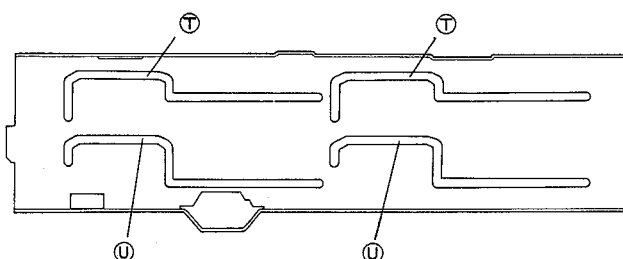

Fig. 10-6.
The racks change the linear movement in the right and left directions into the complex movement of the trays by grooves ①, ②, ③, and ④ on the reverse side and grooves ⑤ and ⑥ in loading base, as shown in Fig. 10-6. Grooves ⑦, ⑧, ⑨, and ⑩ on the front side control the SW board ass'y switches (U, S, and L).